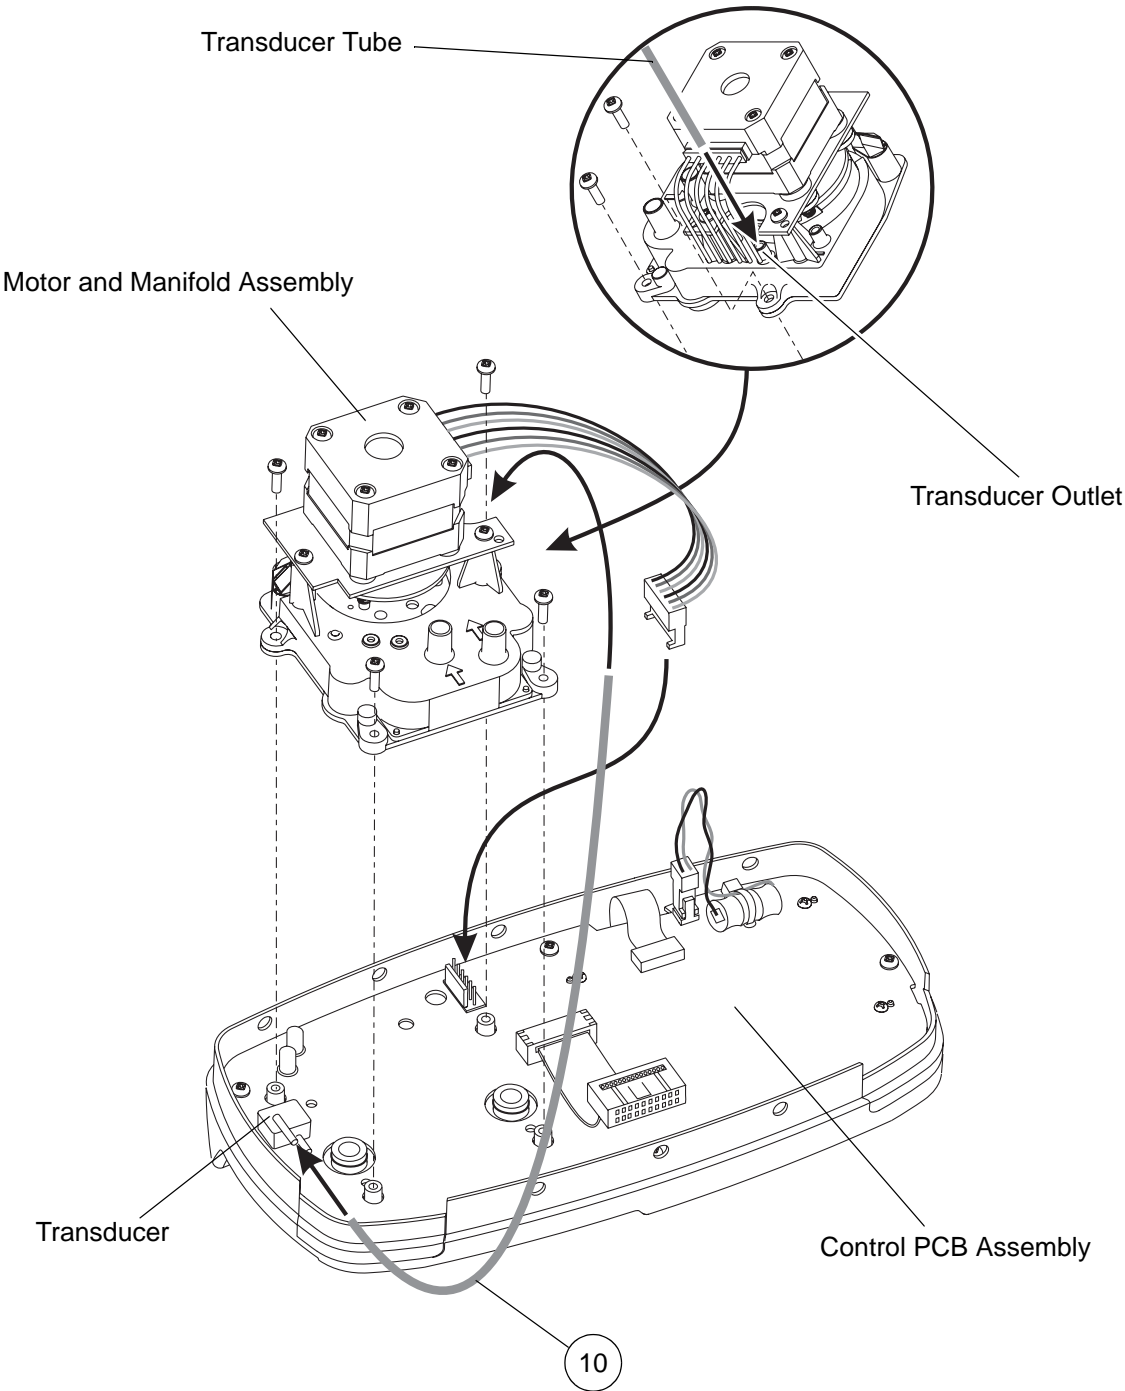

Figure 47 - Installing the New Longer Transducer Tube
- 19.25 Install the motor and manifold assembly into the pump (Refer to Page 20, Section 19.8). To install the new longer transducer tube (Table 15, Item 30), use the following procedure (refer to Figure 47):
- 21.2 Refer to Figure 47 and Table 17, which detail the longer tube.
Connect one end of the longer transducer tube (Fig 47, Item 10) onto the transducer outlet on the motor and manifold assembly.
Connect the other end of the longer transducer tube (Fig 47, Item 10) onto the top outlet on the transducer on the control PCB assembly.